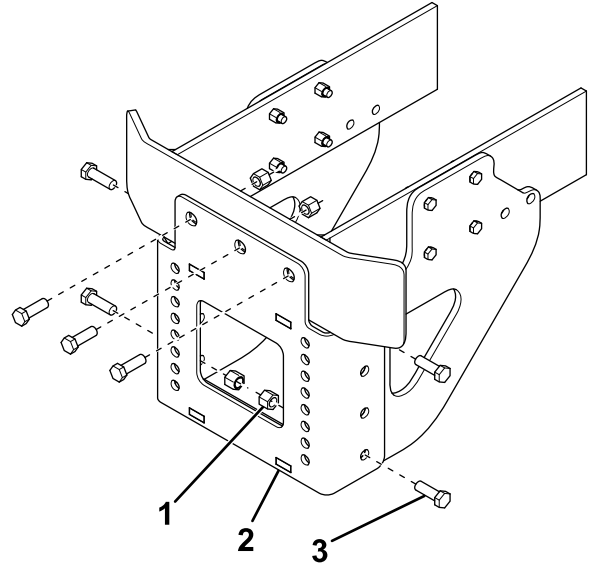

Figure 4
6. Secure the front plate to the frame and side plates using 7 bolts (1/2 x 1-1/2 inches) and nuts (Figure 4).